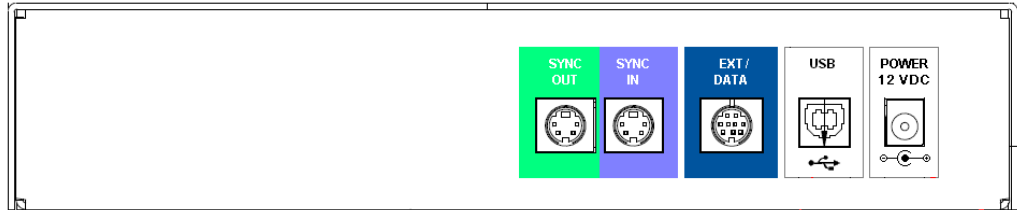

Figure 2.15 CATC 5K Rear Panel
- Synchronization Cable for synchronizing multiple analyzers. The Synchronization Cable connects to the SYNC IN and SYNC OUT connectors located on the UWB Tracer/Trainer rear panel (Figure 2.15). (For more information about setting up multiple analyzers, see Section 10.3, “Multiple Analyzer Synchronization” on page 158.)